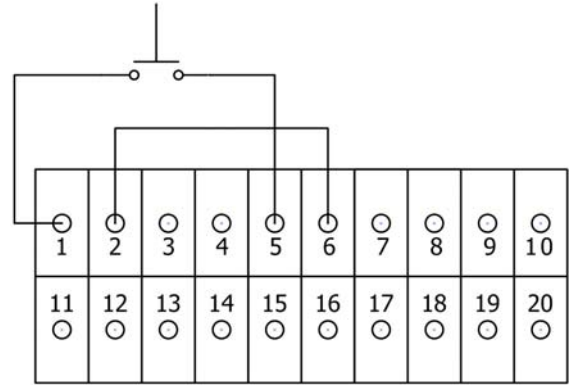

Figure 17. 24VAC Internal
- Connect the green jumper wire (supplied) to terminals 2 & 6 (see Figure 17).